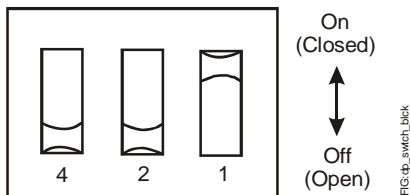

Figure 1: Setting the DIP Switch Block
3. See Figure 1 and set the DIP switch block on the discharge air sensor circuit board to the desired DIP switch address.